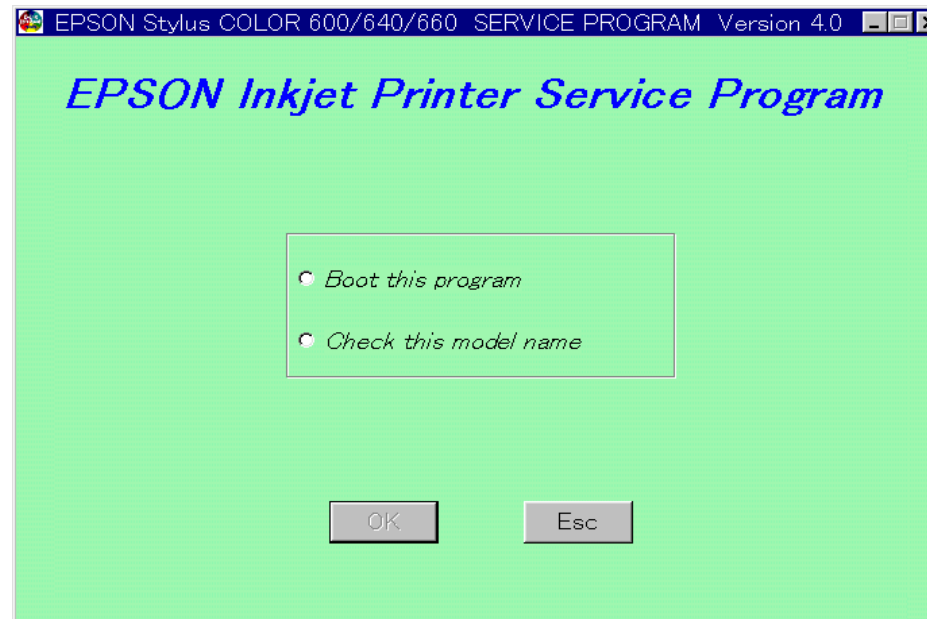

Figure 5-4. Initial Screen (3)
16. Press “OK (Esc)” to go back to the initial screen (3) (Figure 5-4).
17. In the initial screen (3) (Figure 5-4), select “Boot this program” and you will enter Stylus COLOR 660 SERVICE PROGRAM.